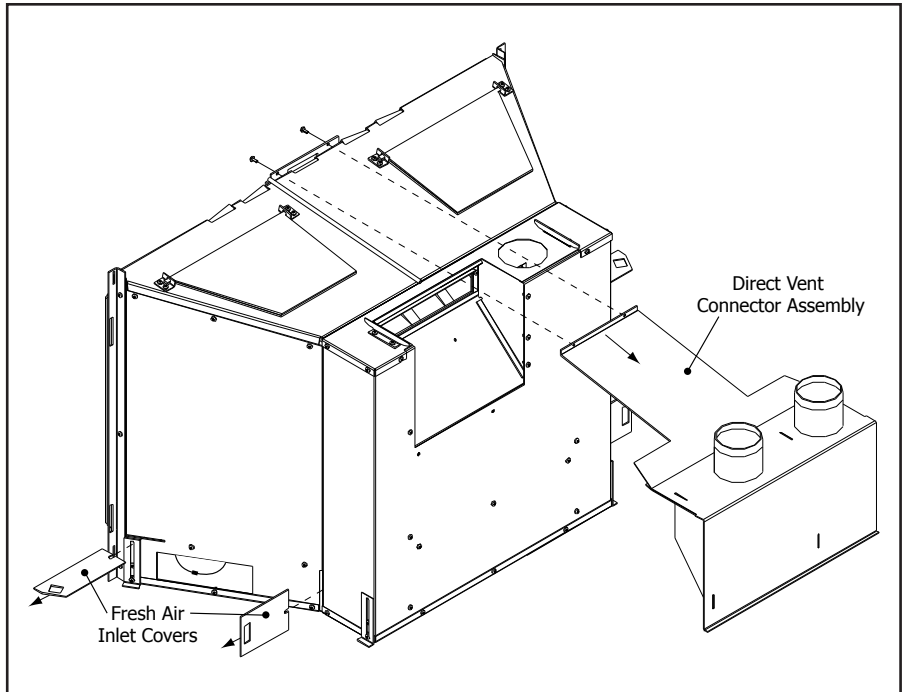
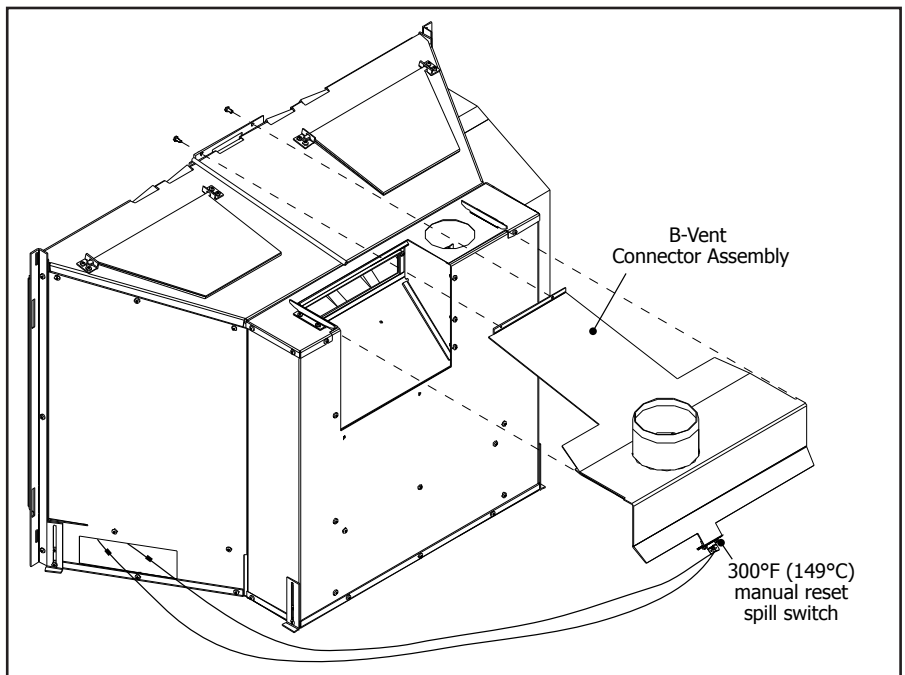

Figure 24: Converting to a BV fireplace.
Figure 25: Converting to a BV fireplace.
1. Remove the Direct Vent chimney connector assembly by taking out the two (2) T-20 screws at the front of the unit. Push the assembly out from under the brackets at the back and remove (see Figure 24).
2. Remove the two (2) fresh air inlet covers from each side. Cover locations shown in Figure 24.
3. Slide the B-Vent chimney connector assembly into the same position the Direct Vent chimney connector assembly was in. Ensure the tabs are under the brackets at the back and the holes at the front line up. Secure into place with the two (2) T-20 screws at the front of the unit.
4. Disconnect the two (2) blue wires at the opening to the right of the unit and connect them to the 300°F (149°C) manual reset spill switch at the rear of the B-Vent chimney connector with the wires supplied. Refer to Figure 25.